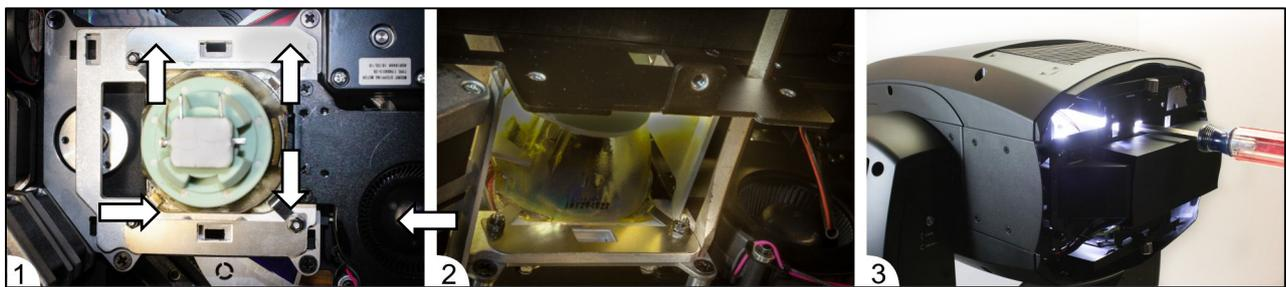

Figure 20: Lamp adjustment
See Figure 20. There are five adjustment slots in the lamp holder (1). Move the lamp holder up, down, left, or right by twisting a slotted screwdriver inserted in a slot as shown in panel 2 (fan removed for clarity). The top-left slot can be used to move the holder to the left (using inside position) or right (using the outside position).